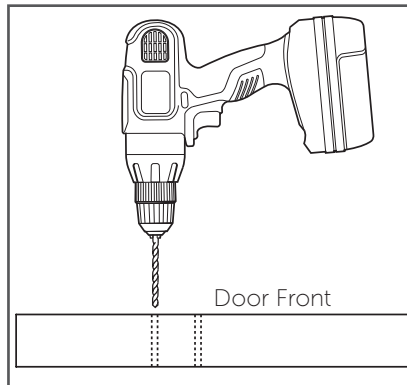

Figure 3
4. Drill three pilot holes all the way through the door for each hanger using a drill with an 1/8" drill bit (Figure 3).